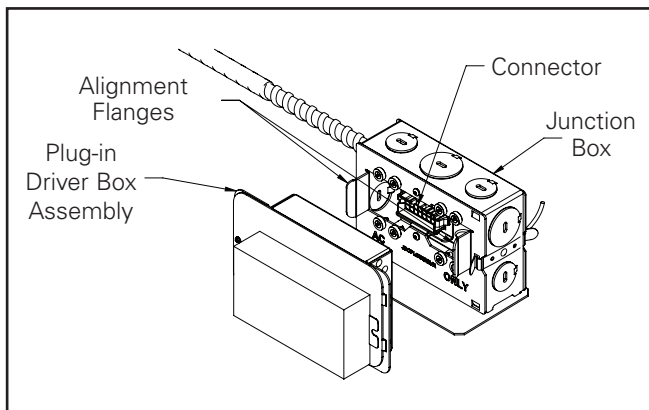

Figure 1
2. Hold and pull the plug-in driver box assembly until it disconnects (Figure. 1).
5. Align the plug-in driver box assembly with alignment flanges & the connector on the junction box and gently push it to the end till the connector engages (Figure. 1).